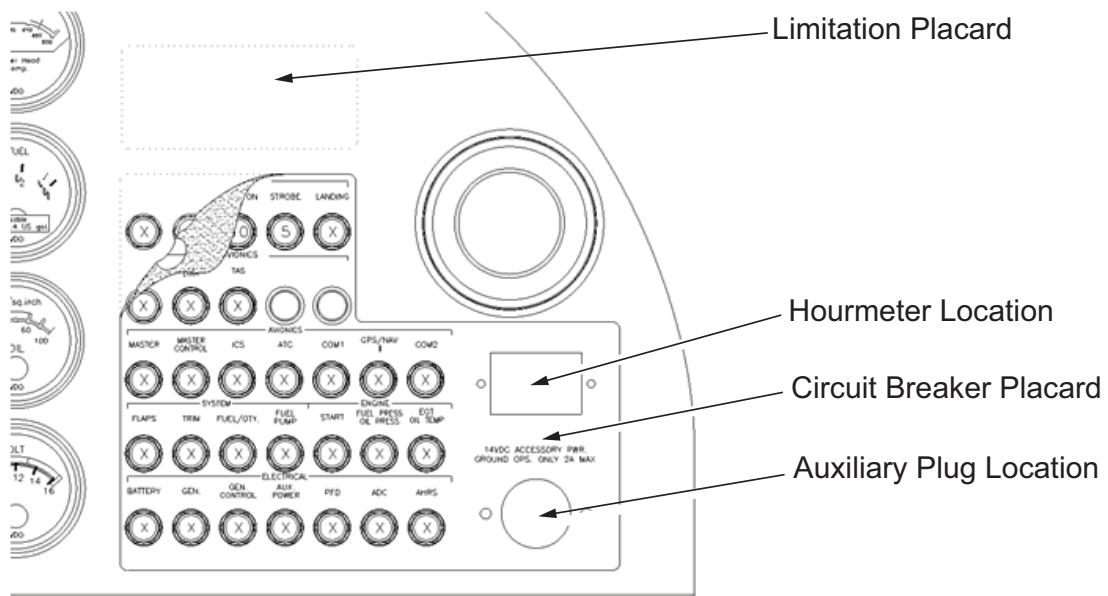

Figure 1
- 10.5 Remove the Limitations placard and Circuit Breaker placard and clean the placard areas with isopropyl alcohol. Refer to Figure 1.